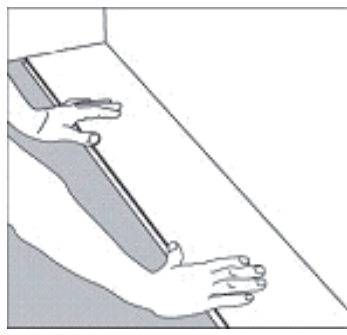

Figure 1
1. Starting from the left with the tongue facing the wall, carefully place the first board in place. (Figure1)